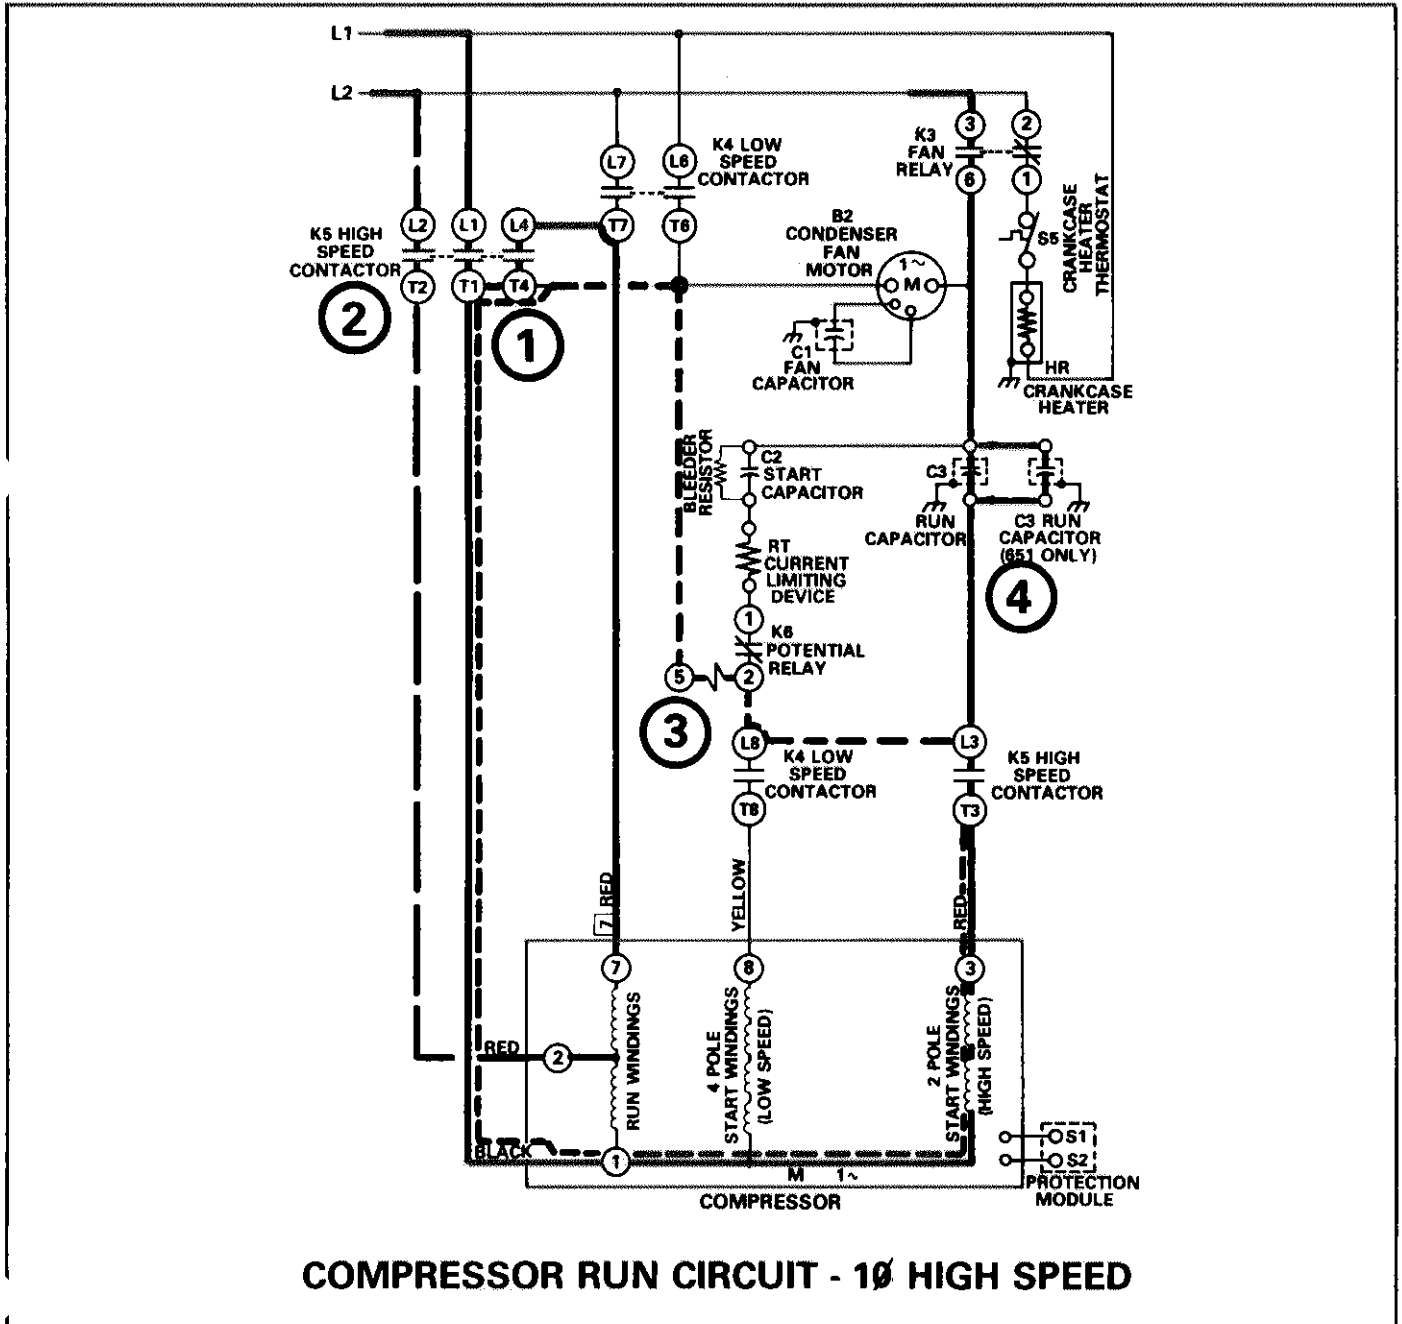

FIGURE 19
- C - Compressor Run Circuit (Figure 19)
## C - Compressor Run Circuit (Figure 19)